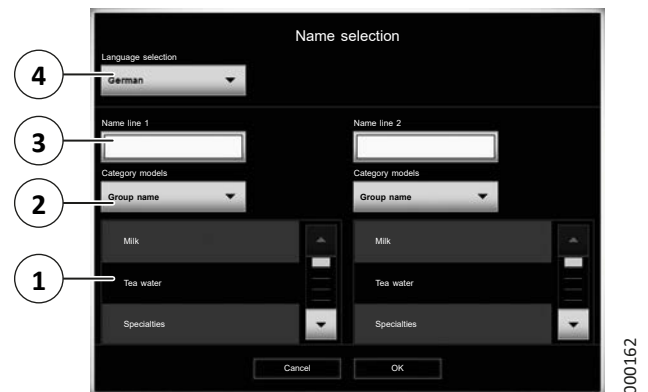

Fig. 32: Selecting or entering a name
- The naming is made in a similar dialog as in Fig. 32.